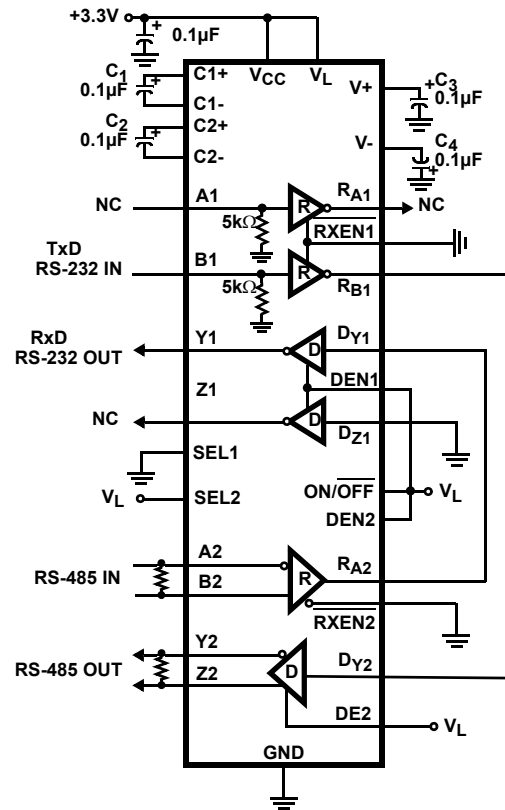

FIGURE 1. SINGLE IC RS-232 TO RS-485 CONVERTER
This two port dual protocol IC is ideal for implementing a two wire (RxD and TxD) RS-232 to RS-485 converter, as shown in Figure 1. To evaluate this circuit using the evaluation board (starting with the default configuration): install the "B1" (4) jumper to connect the 50Ω termination on the input; remove the "DY1 (DZ/SLEW)" (23) and "DY2 (NC)" (20) jumpers; connect a wire from the "RB1 (RA)" test point to the DY2 test point ("TP19"); connect a wire from the "RA2 (NC)" test point to the DY1 test point ("TP20"); connect the port 2 "external loopback" jumpers (9 and 10), and move the "SPA" (16) and "SPB" (17) jumpers to the "LOW" positions to set the RS-485 Tx speed to the medium data rate option. Note that the RS-232 Tx output (Y1) is unloaded in this configuration, while the RS-485 Tx output drives a double terminated load ( $R_{13}$  and  $R_{14}$ ). The RS-232 output can be resistively loaded by looping it back to the "A1" input via the "A1/Y1\_LB" (5) jumper, and can be capacitively loaded by soldering the desired load value in position C4. To add a differential capacitive load to the RS-485 driver, simply solder the capacitor on top of termination resistor  $R_{13}$ , or